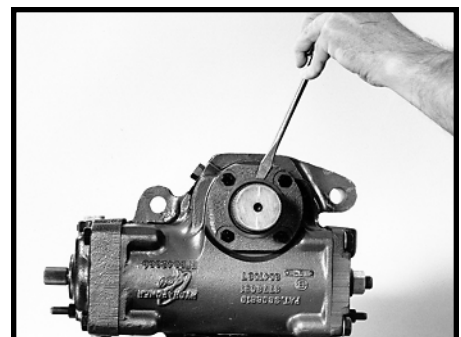

Figure 39
2. Remove the seal protector boot (63), grease fitting (64) if included and the dirt and water seal (27) from the trunnion cover (26). SEE FIGURE 39. Discard protector boot and seal.